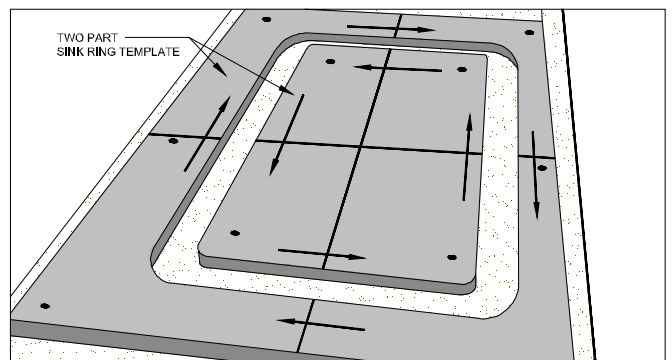

Figure 1C
- Make a two part template to route the countertop substrate. (FIG. 1C)